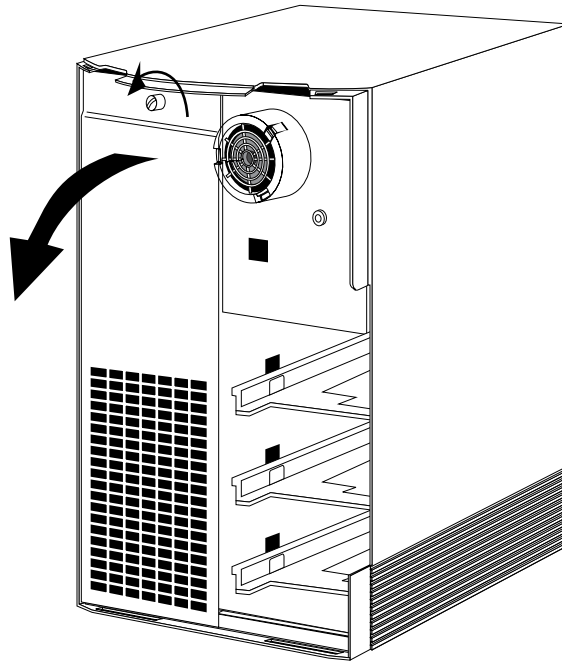

Figure 2-3 Opening the card cage
3. Open the card cage by twisting the screw at the top of the sheet metal card cage cover to the right, as shown in Figure 2-3.